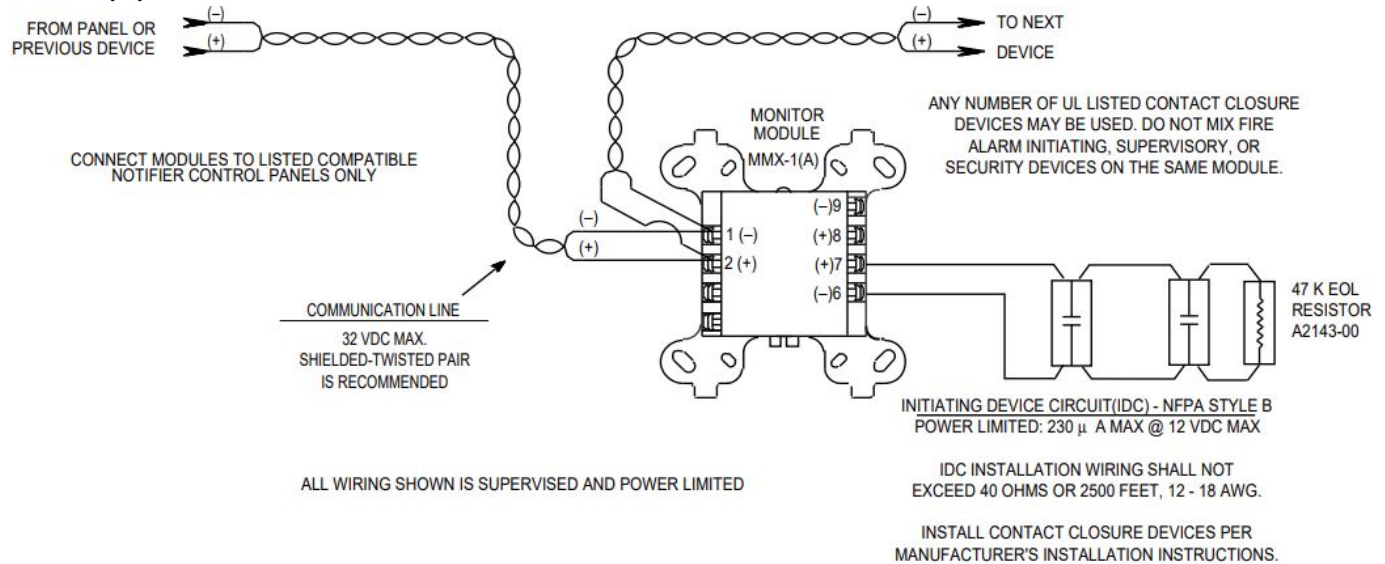

FIGURE 3. TYPICAL 2-WIRE INITIATING CIRCUIT CONFIGURATION, NFPA STYLE B
1. Install module wiring in accordance with the job drawings and appropriate wiring diagrams (Figures 3 – 10).